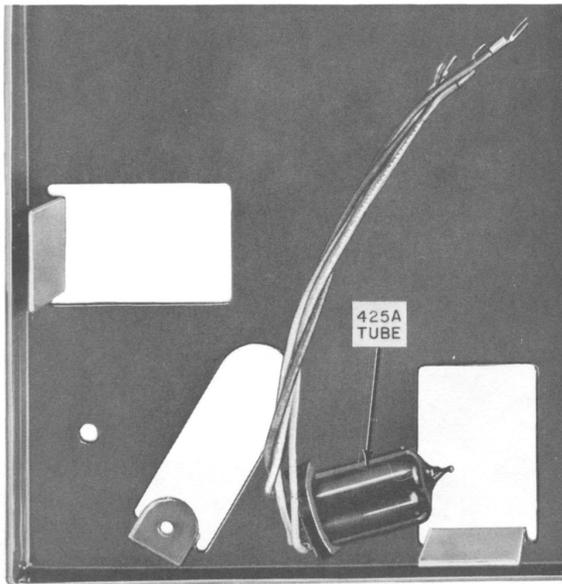

Fig. 4—Installation of Cold-Cathode Tube on Base Pan Assembly
**3.06** To install on the base pan assembly, secure the tube to an existing nailing hole using the mounting screw furnished with the tube (Fig. 4).